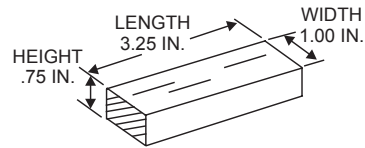
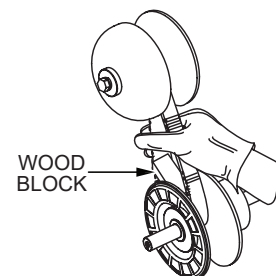

Figure 20. Wood Block for Spacer
Figure 23. Wood Block
3. Insert the wood block (Figure 20) between the moveable face and the fixed face of the lower drive pulley. This will help keep the lower drive pulley faces open while installing the new drive belt. See Figure 23.
- Have a 3/4" x 1" x 3-1/4" wood block (Figure 20) available.